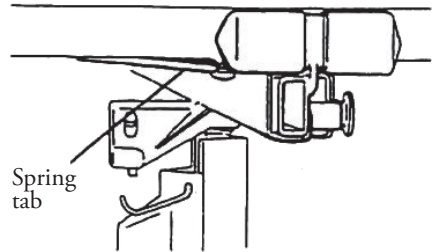

Fig. 9
- Press each crossarm forward into the socket until the spring tab on the bottom of the crossarm snaps into place. (Fig 9)